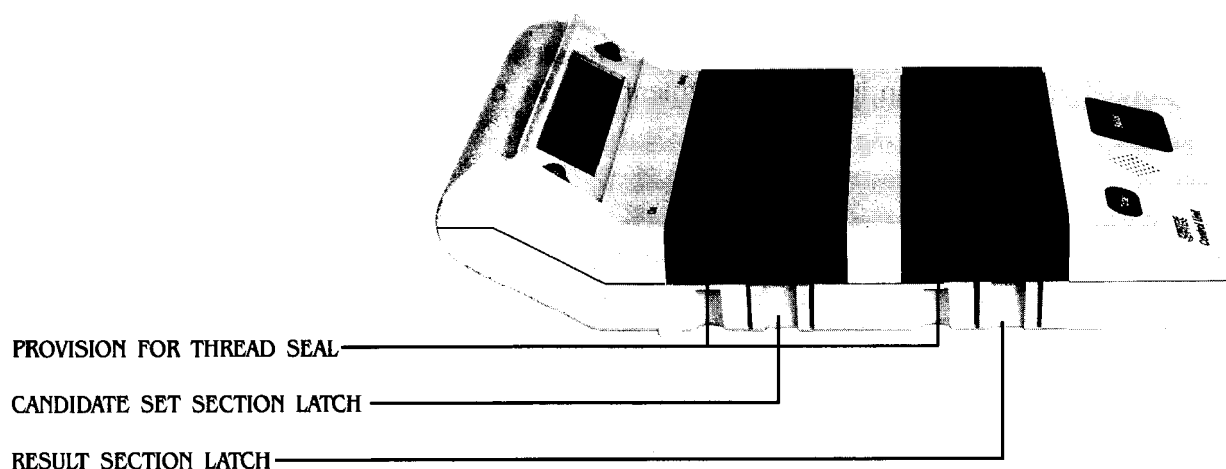
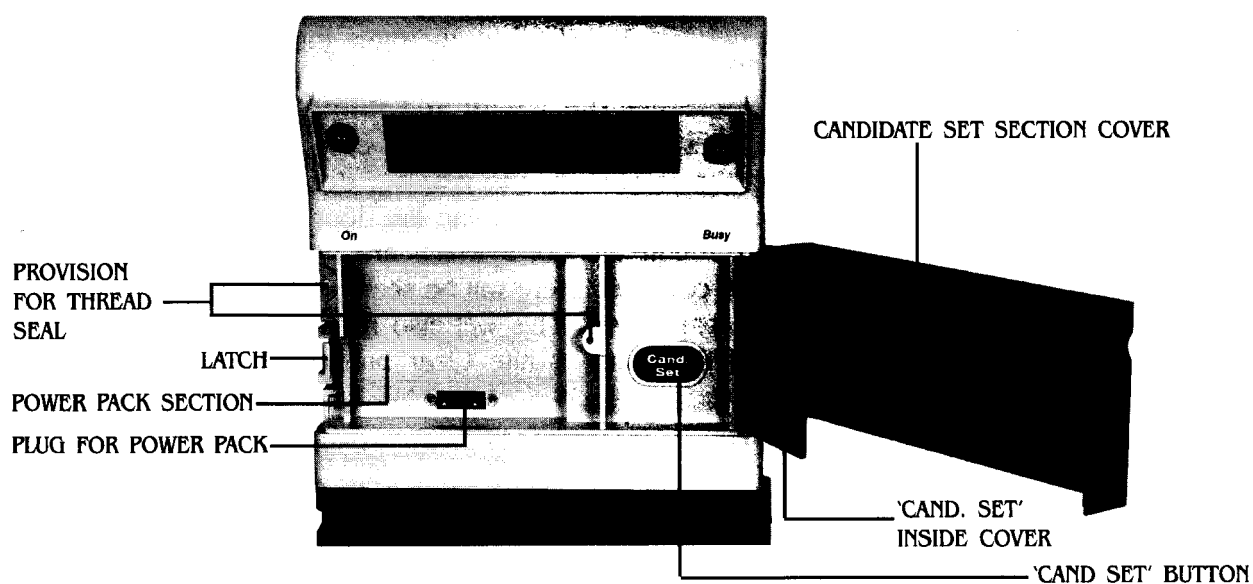

Fig.7 Side view of Control Unit
Fig.8 View of Candidate Set Section
20. The candidate set section (Fig.8.) houses a power pack compartment and a 'Cand. Set' button compartment. This section has a cover which opens from left to right. On opening its cover, by pressing the latch on the left hand side, the two compartments are seen. The power pack compartment is on the left side of the candidate set section and is for fixing the power pack. The 'Cand. Set' button compartment on the right side is covered with a flap which opens from left to right and can be sealed by thread seal. In this compartment a black 'Cand. Set' button is located. The candidate set section can be closed and sealed by thread seal as shown in Fig. 7.
Cand. Set Button (Fig. 8)